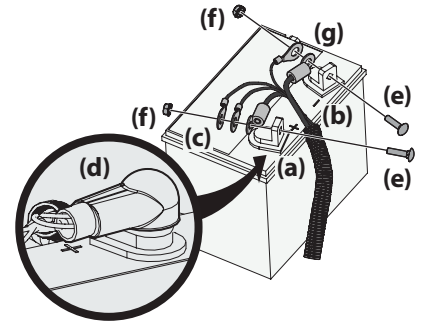

Figure 2-20
Note: The positive battery terminal is marked POS. (+) (a). The negative battery terminal is marked NEG. (-) (b). See Figure 2-20.
Note: If the positive battery cable (c) is already attached, skip ahead to Step 6. See Figure 2-20.
3. Slide the red boot (d), if present, back along the positive cable grouping. See Figure 2-20.
4. Attach the positive cable grouping (c) and positive cable for the 12V outlet (if equipped) to the positive battery terminal (a) with the bolt (e) and sems nut (f). See Figure 2-20.
5. Position the red boot (d) over the positive battery terminal (a) to insulate it and help protect it from corrosion. See Figure 2-20.
6. Attach the negative cable grouping (g) and negative cable for the 12V outlet (if equipped) to the negative battery terminal (b) with the bolt (e) and sems nut (f). See Figure 2-20.